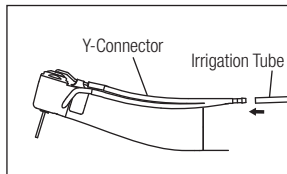

Fig. 9
- 2) Connect the Irrigation Tube to the Y-Connector firmly. (Fig.9)